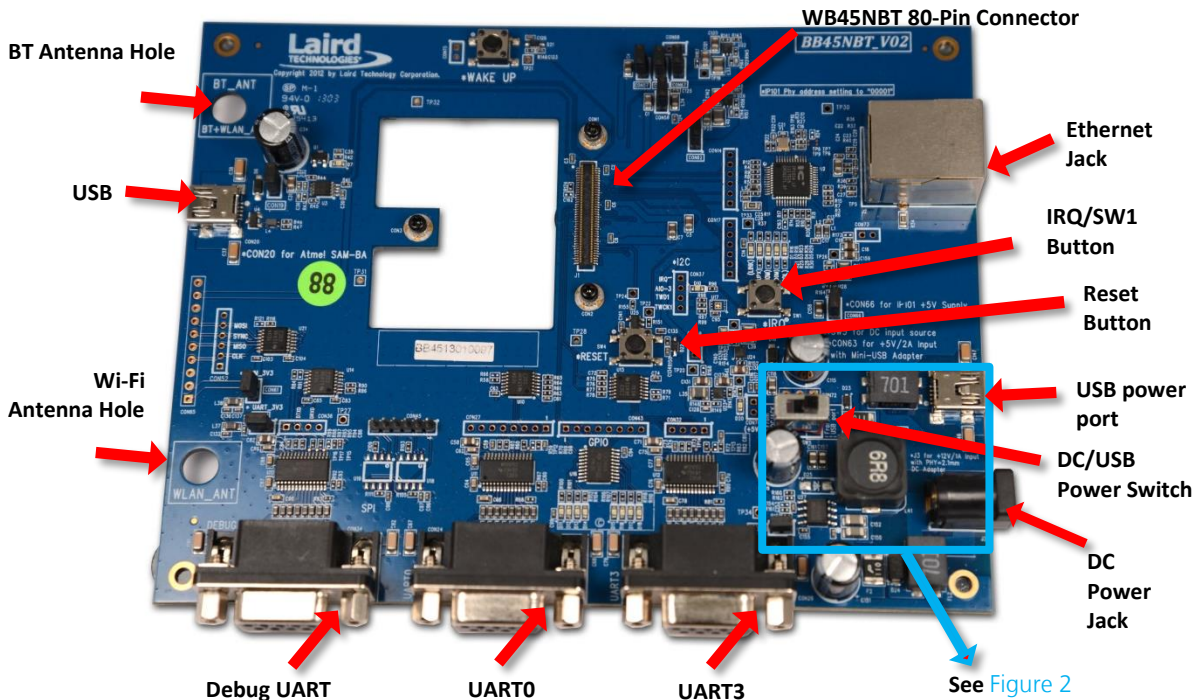

Figure 3: BB45NBT Evaluation Board
3. Connect the DB9 connector of your USB-to-RS232 cable to the port marked Debug UART shown in the BB45NBT overview diagram Figure 3.